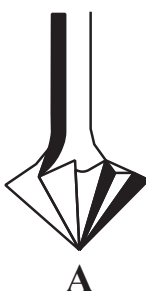

Fig. 8
- 8 **Figure 8** shows drill bits that are generally used when making holes in the workshops.